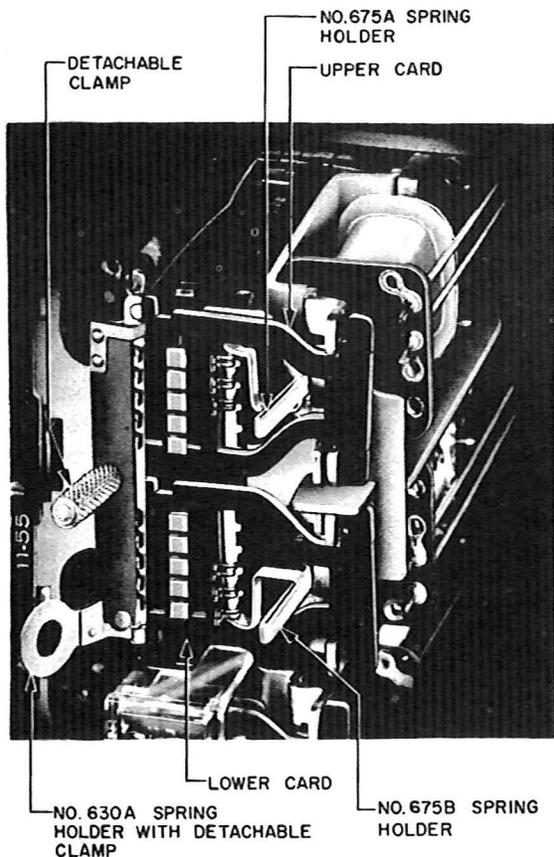

Fig. 8 - Card Removal Tools Mounted in Place
(b) Hold the clamp associated with the spring holder by the handle, with the notch at the bottom. Place the metal loop, at the top of the clamp, on the end of the spring holder that extends out above the make contact springs. Move the clamp downward so that the notch in the bottom of the clamp engages the pin located adjacent to the handle on the spring holder. The clamp will hold the make contact springs in their proper notches on the spring holder (see Fig. 8).
at the top of the spring holder as shown in Fig. 8. Similarly place the outer end of the bottom leg of the balancing spring in the notch at the bottom of the spring holder.
(b) If there are break contact springs on the lower half of the relay, similarly apply the No. 675B spring holder, except insert the notched leg of the holder behind the movable spring contacts from below. Fig. 8 shows the spring holders in position.
9. To add Fig. 8 through 14.